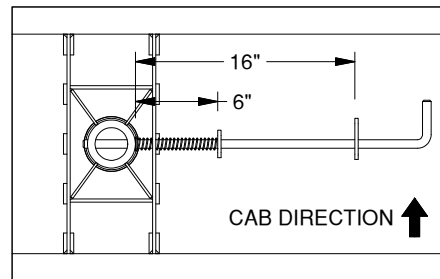

Figure 6
4. **Install the latch pin handle.** Place the spring onto the latch pin handle, and then insert the handle through the handle guide with round hole. Position the handle into the hole in the receiver socket. Measure 6" from the socket to the handle guide with round hole, and weld it to the bed floor. With the latch pin handle inside the socket, place the handle guide with slotted hole onto the handle. Position the handle guide with slotted hole 16" from the socket and placed so that the handle is one one side of the slot, with the other side of the slot towards the cab. Weld the handle guide with slotted hole to the bed floor, see Figures 6 & 7.